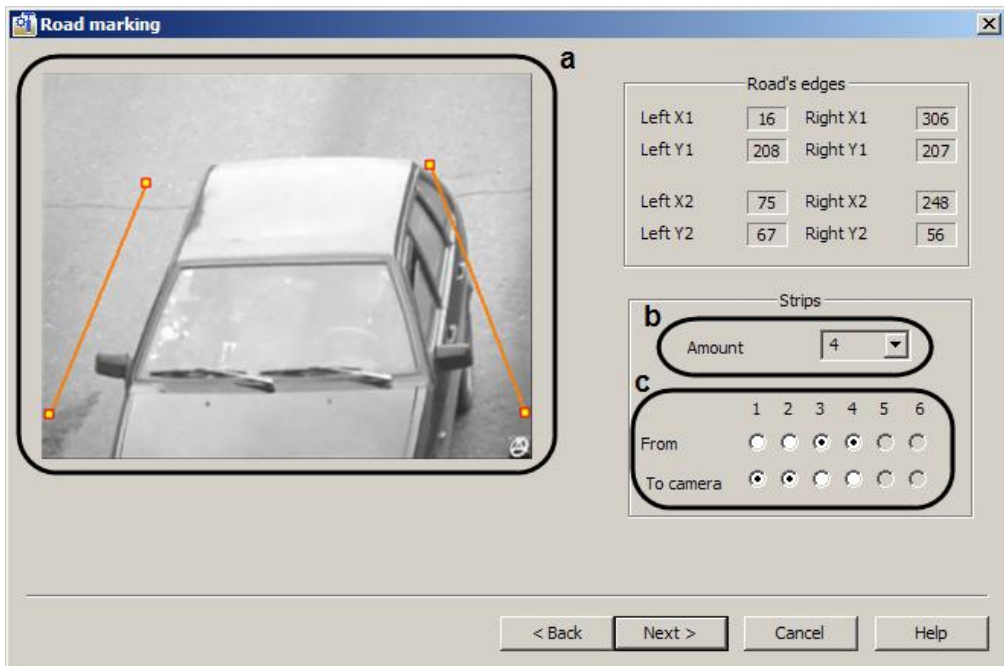

Fig. 7.4-8 Markings setup
7. The Road marking window opens. This window allows setting the road edges, number of lanes and the driving directions (see Fig. 7.4-8).
- 7.1 To remove the road edge, Shift-click one of its endpoints by pressing the left mouse button. (see Fig. 7.4-8, a).
- 7.2 To set the road edge, click the road edge in the image, press the left mouse button, drag the cursor to another edge of the road in the video frame, release the button (see Fig. 7.4-8, a).
- 7.3 Set the number of driving lanes (see Fig. 7.4-8, b).
- 7.4 Set the driving direction for each lane (see Fig. 7.4-8, c).